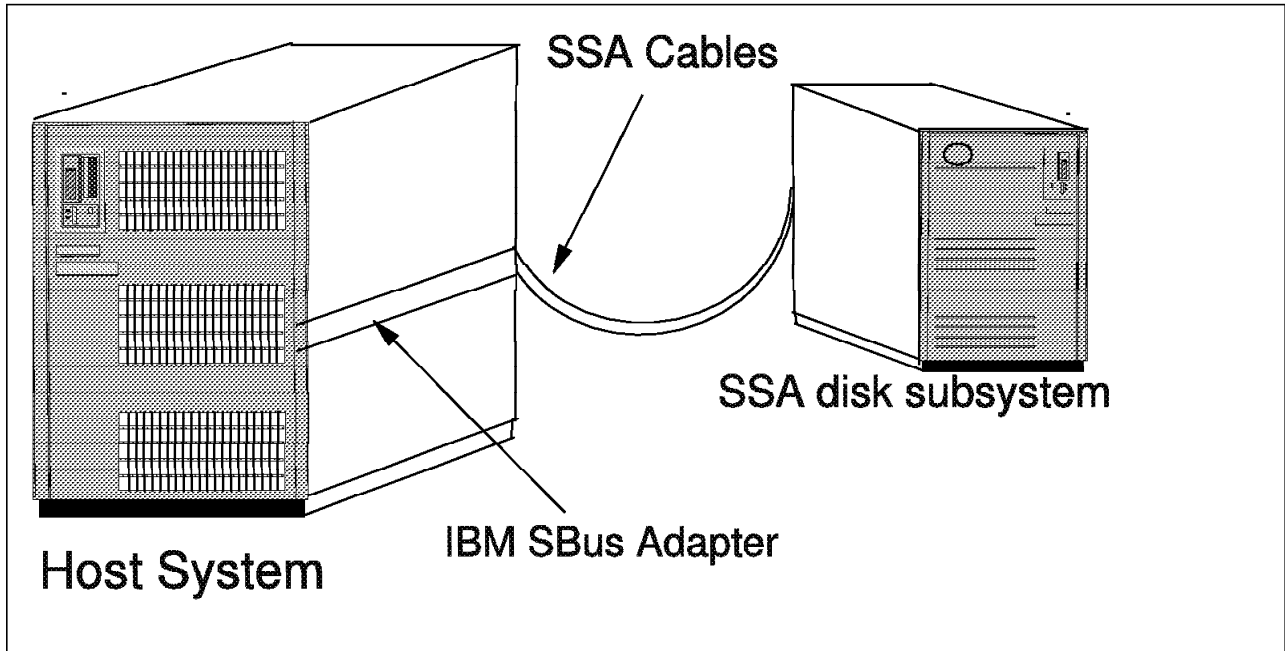

Figure 57. Installing 713x Disk Storage Subsystem
3. Install the SSA cables between the adapter card and the SSA disk storage subsystem as shown in Figure 57 on page 69